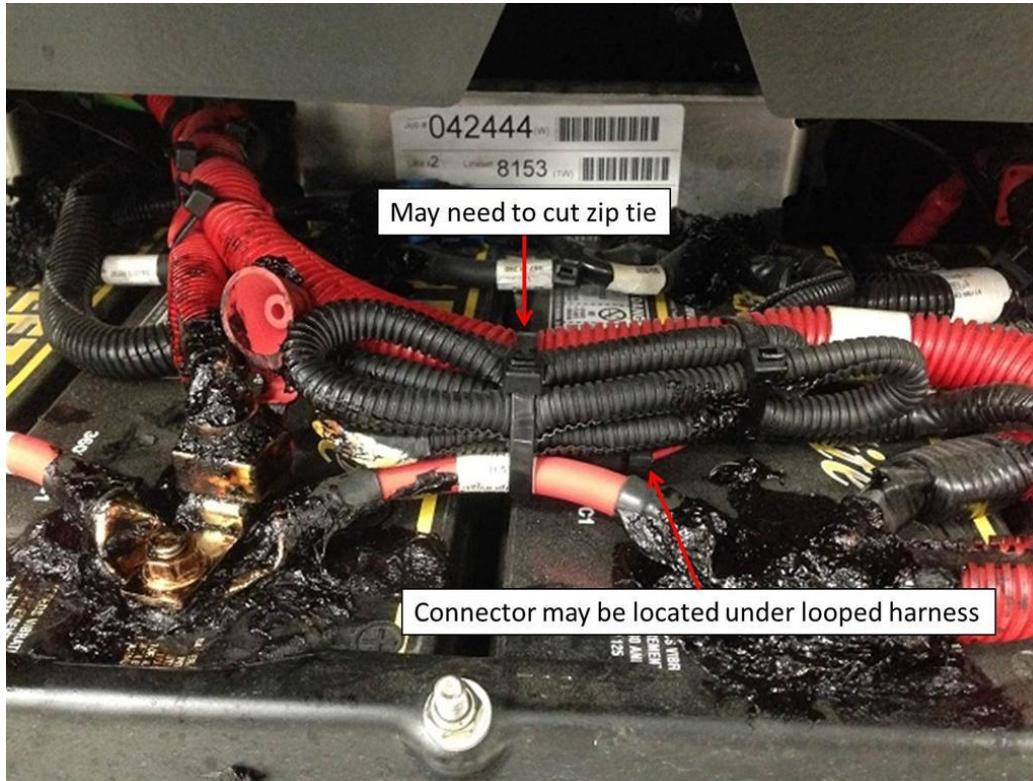

Figure 3: Battery Box
1. Locate connector 9253 - Batt ECM Positive and connector 9260 - Battery Negative in the battery box, shown in Figures 3 and 4 below